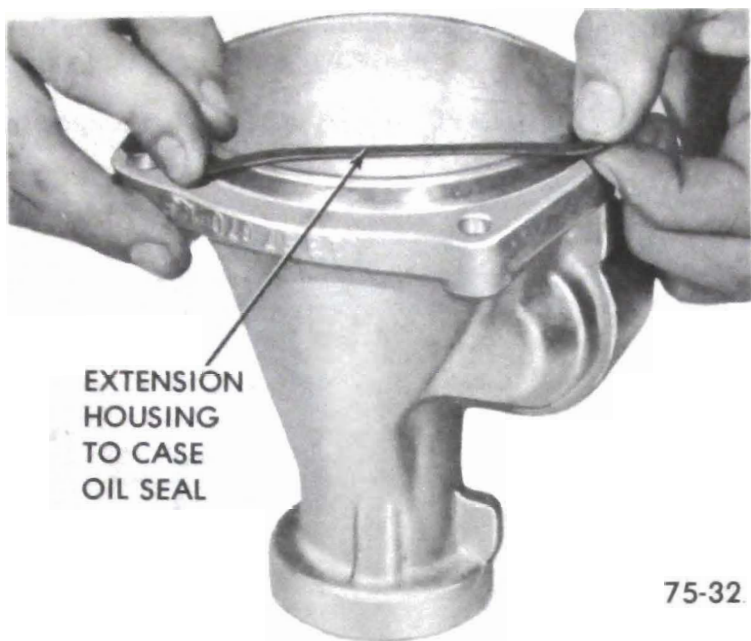

Figure 75-74
1. Remove extension housing to case oil seal. See Figure 75-74.